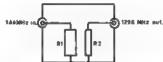

FIG. 8. SIGNAL SOURCE, TERMINATION.
**Mixer.**—As very few will have access to a good noise generator, a weak 1296 Mc. signal is necessary to optimise the mixer. The harmonic of a 144 or 432 Mc. transmitter will suffice. It is necessary to provide a resistive termination for the converter by construction of a simple unit shown in Fig. 8. Mount two connectors on a "U" shape bracket. Connect either 75 or 50 ohm resistors, depending on the co-ax. to be used, with the shortest possible leads. Only carbon composition type resistors should be used as the spiral track type become very reactive above about 30 Mc. Reduce the 432 Mc. transmitter power output to about 1 watt and connect to the load resistor R1.